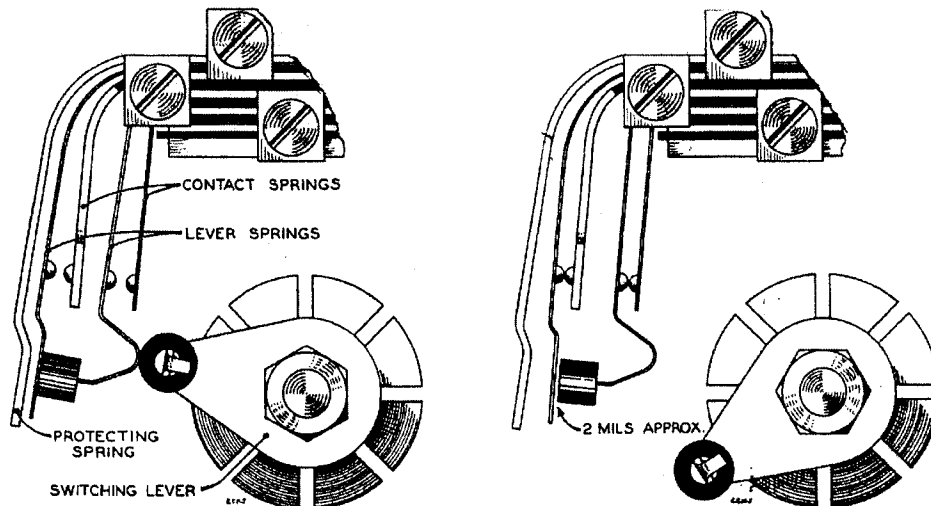
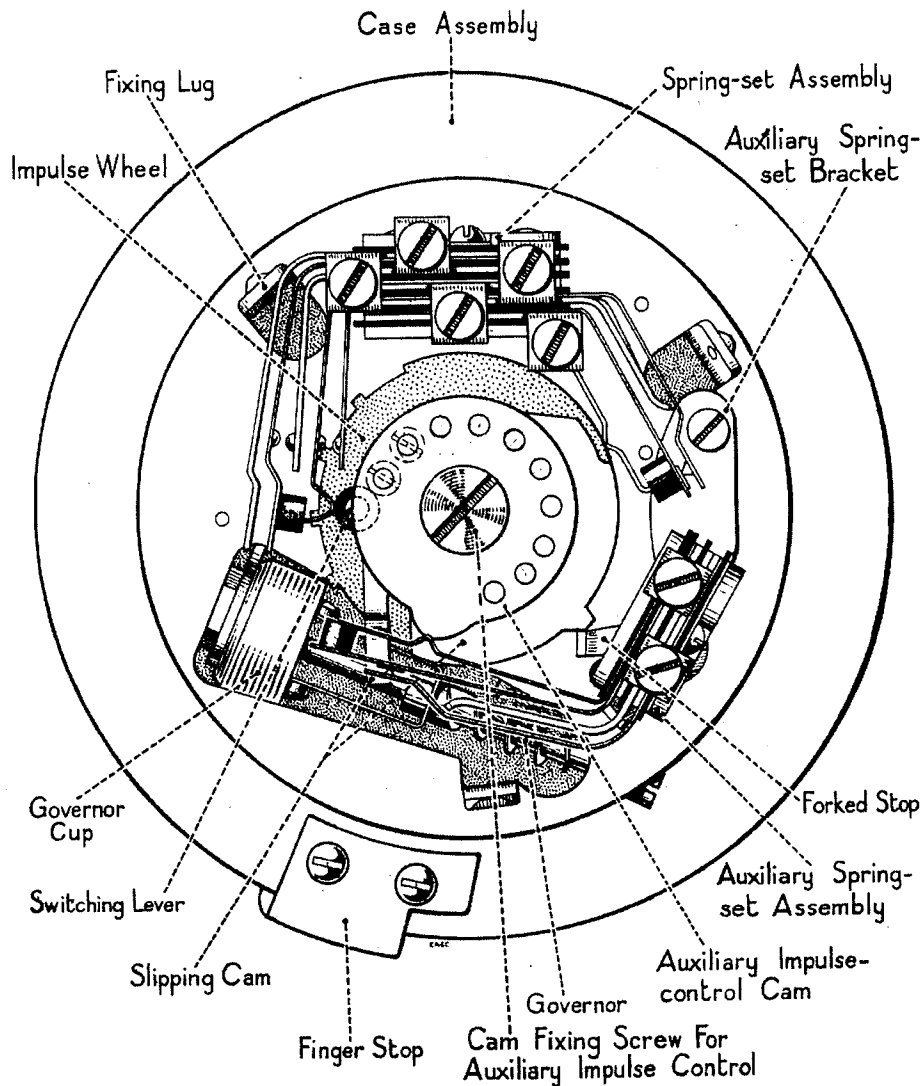

FIG. 10. ADJUSTMENT OF SWITCHING LEVER
FIG.26. REAR VIEW OF "DIAL, AUTOMATIC, NO.11"
7. The switching lever should be adjusted so that, when normal, it rests at the top of the set in the first lever-spring (see Fig.10).
15. A rear view of a "Dial, Automatic, No.11" showing the names of the auxiliary parts is given in Fig.26. With the switching lever in correct adjustment (see Fig.10) the adjustments contained in paras.17 to 20 can be obtained.